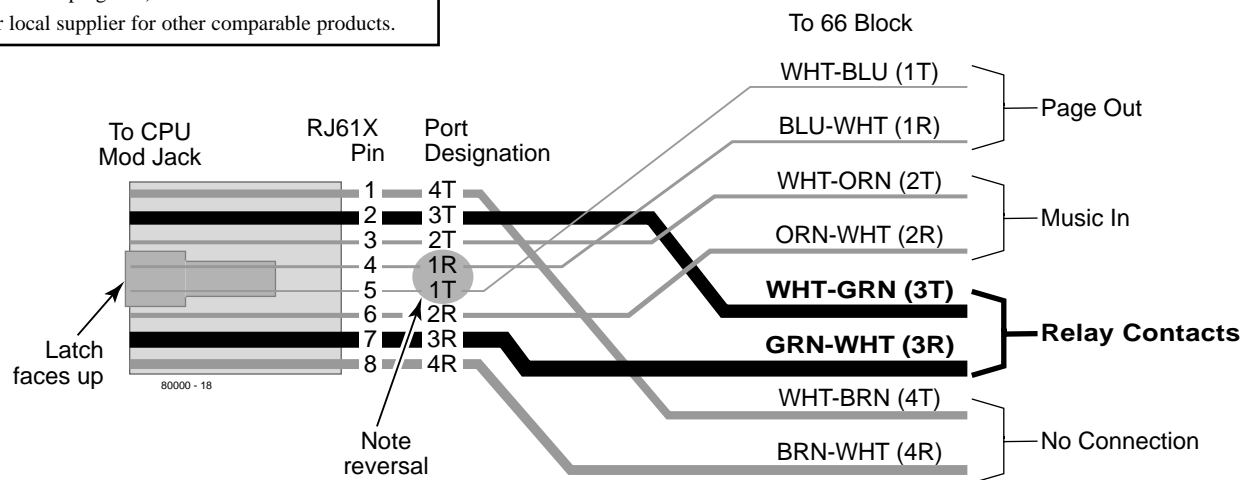

Figure 4-3 CONNECTING CONTROL RELAYS
### Connecting to the CPRU Relays (Figure 4-3)
2. For the connector chosen, locate pins 3T and 3R (see Figure 4-3) and connect to the device the relays will control.